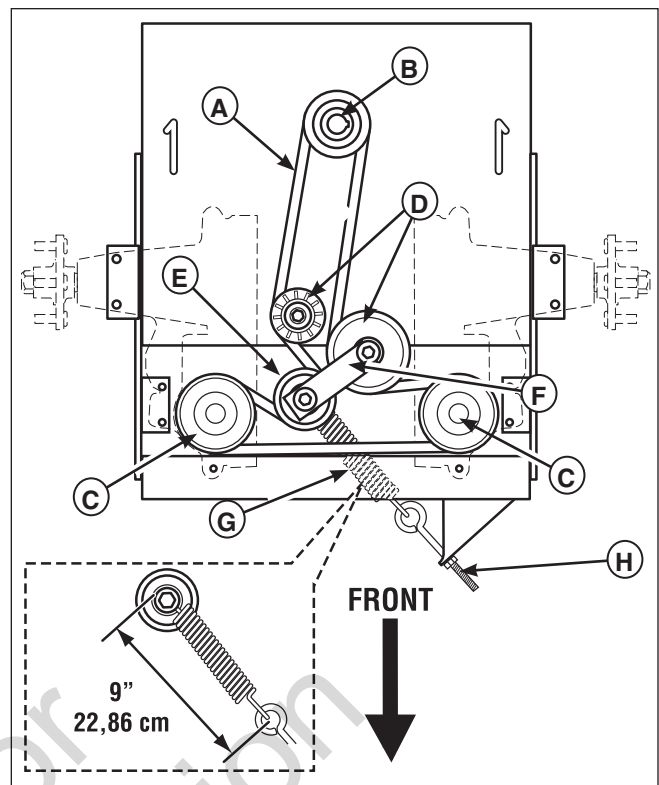

Figure 47. Hydraulic Pump Drive Belt Replacement (Shown from Below)
3. Loosen the nut towards the front of the machine on the spring anchor hook (H, Figure 47) to release the majority of the belt tension. Use caution and remove the nut to completely release the tension.
5. Reinstall the anchor hook (H) into the anchor tab and loosely fasten the nut. Adjust the spring until a measurement of 9" (22,86cm) is achieved from the outside of the spring hooks. Tighten nut.